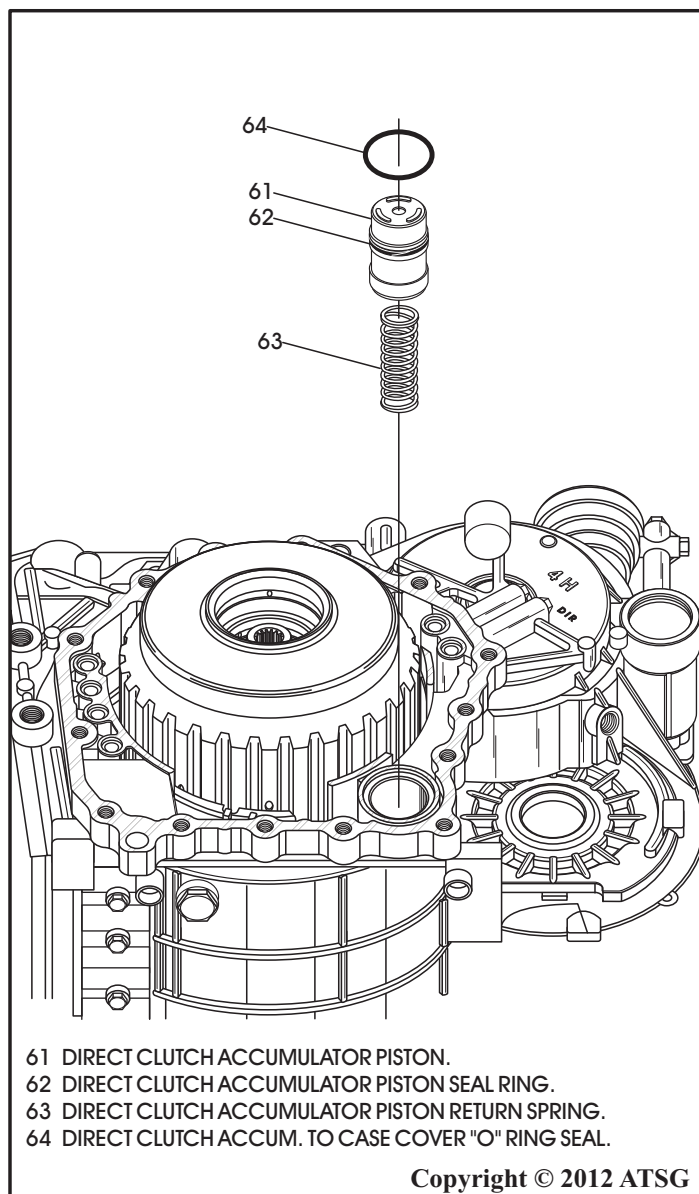

Figure 264
52. Install the direct clutch accumulator spring into the case, as shown in Figure 264.
53. Install new scarf-cut seal ring onto direct clutch accumulator piston and install the assembly into the case, as shown in Figure 264.